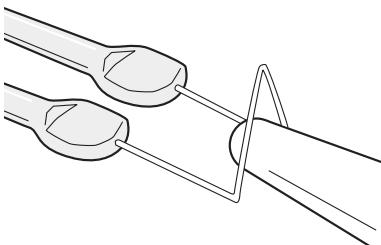

Fig. 15—Position pipette under the loop
8. Position the filament so the top of the looped end is in the field of view. Using the reticle, note the location of the inside edge of the filament. Move the filament, looped end up, closer to the objective until the looped end is out of view. This allows the pipette to be placed under the filament and still be in the field of view (Fig. 15).